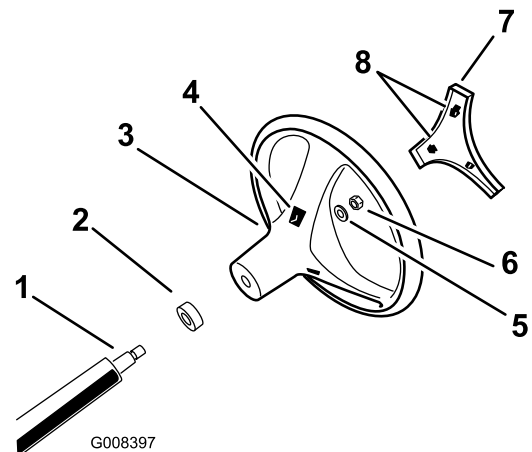

Figure 3
4. Secure the steering wheel to the shaft with the nut (Figure 3). Torque the nut to 18-22 ft-lb (24-29 N-m)